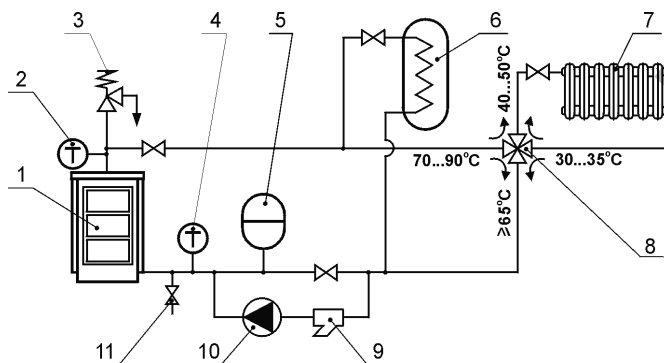

Fig. 3
4.3. Requirements for connection to heating system (fig.3):